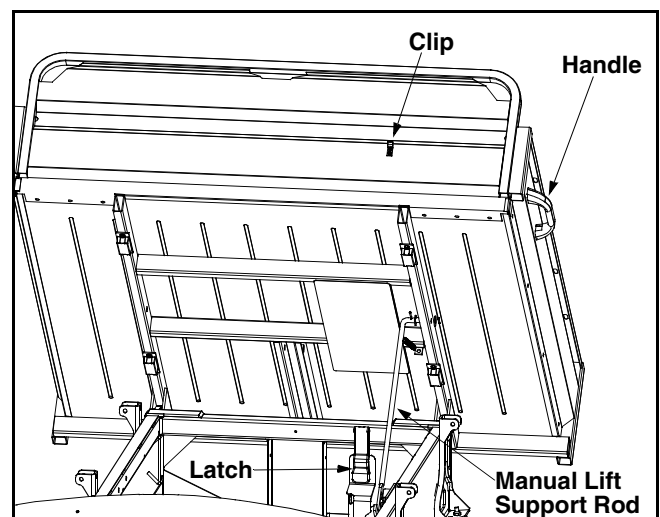

Figure 12
- Empty cargo by hand and unhook cargo box latch located in front of box. See Figure 12.
- Raise cargo box manually to upright position using the handle on the drivers side of box. See Figure 12.